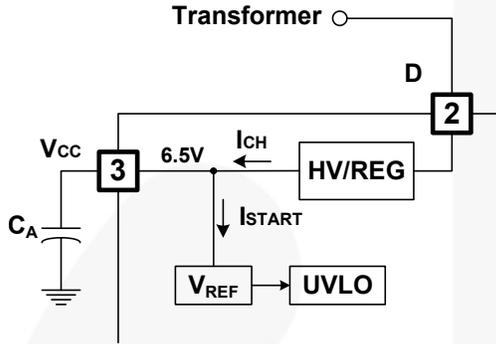
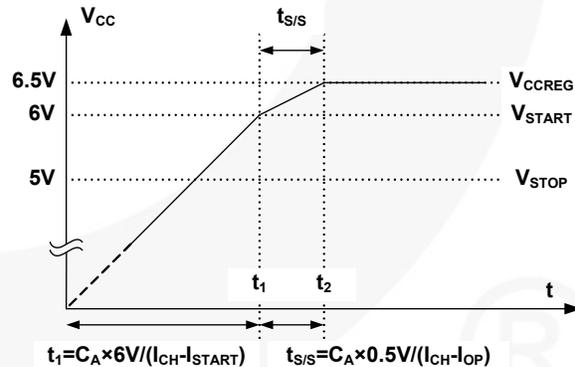

Figure 15. Startup Block
Figure 20. Soft-Start Function
1. Startup and V_{CC} Regulation: At startup, an internal high-voltage current source supplies the internal bias and charges the external capacitor (C_A) connected to the V_{CC} pin, as illustrated in Figure 15. An internal high-voltage regulator (HV/REG) located between the D and V_{CC} pins regulates the V_{CC} to be 6.5V and supplies operating current. Therefore, FSQ500L needs no auxiliary bias winding.
4. Soft-Start: The soft-start time is tuned by an external V_{CC} capacitor (C_A), which increases PWM comparator non-inverting input voltage together with the senseFET current slowly after it starts up. Before V_{CC} reaches V_{START} , C_A is charged by the current $I_{CH-I_{START}}$, where I_{CH} and I_{START} are described in Figure 15. After V_{CC} reaches V_{START} , all internal blocks are activated, so that the current consuming inside IC becomes I_{OP} . Therefore, C_A is charged by the current $I_{CH-I_{OP}}$, which makes the increasing slope of V_{CC} become sluggish. V_{CC} is shifted by 6.0V negatively (it is performed in soft-start block in Figure 2), and then $V_{CC} - 6.0V$ is an input of one of the input terminals of the PWM comparator. The drain current follows $V_{CC} - 6.0V$ instead of the V_{FB}^* because of the low-dominant feature of the PWM comparator. The soft-start time can be made long or short by selecting C_A , as described in Figure 20. During $t_{S/S}$, I_{DELAY} is disabled to avoid unwanted OLP. Typically, $t_{S/S}$ is around 4.6ms with 27 μ F of C_A .